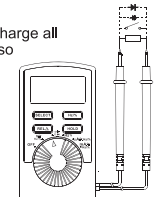

Figure 3
3. Measuring Resistance (See Figure 3)